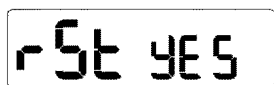

Fig. 1
2. Use the +hi or -lo to toggle to the yes option to reset -Fig. 1.	+ - hi or lo